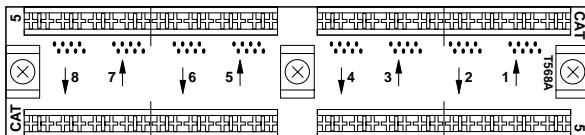

Figure 3-1. A group of eight Type 110 connectors on the back of an EIA/TIA-568A model of the Panel.
- Face the Type 110 (rear) side of the Panel and find the connector you want to use. The connectors are arranged in groups of eight: Viewed from the rear, the connectors with the lowest RJ-45 (front) side numbers (1 through 8) will be on the far right; the next group (9 through 16) will be the second from the right; and so on. The eight connectors in each group are individually numbered on the Type 110 side from 1 to 8, starting with “1” in the upper right-hand corner and zigzagging up and down to “8” in the lower left-hand corner. So, for example, on a 32-port Panel, the Type 110 connector for port 19 will be in the third group of eight from the right, and will be the second connector from the right in the upper row (the connector labeled “3”). See Figure 3-1 below.